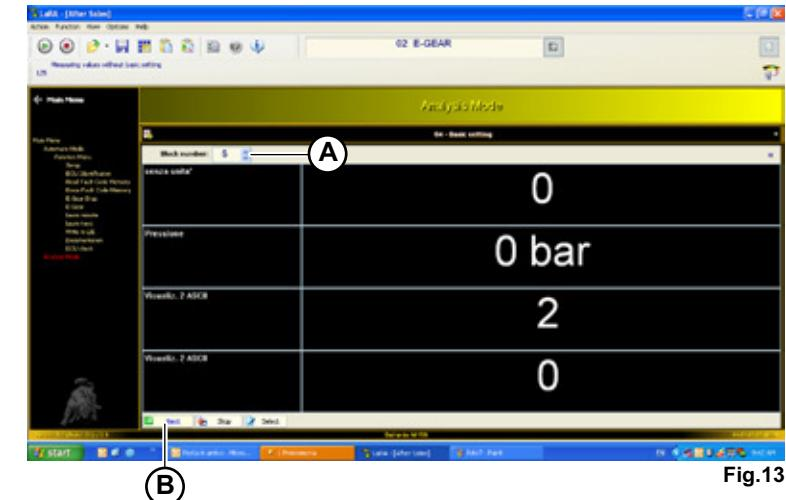

Fig.13
- Select routine 5 inside the block number (**A-Fig.13**).
- Start the connection () and press the start push-button (**B-Fig.13**).